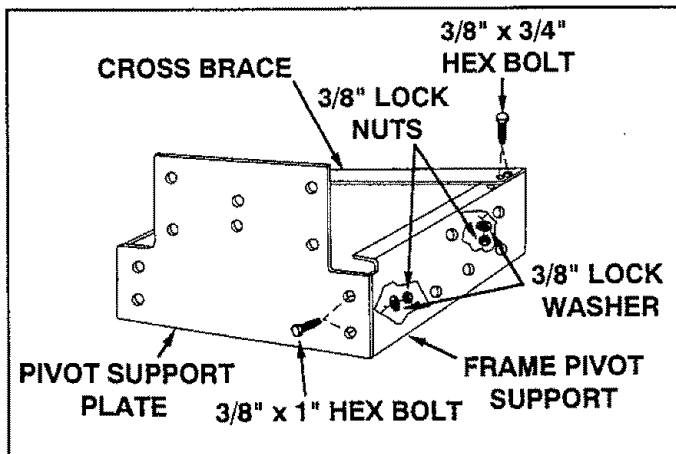

FIGURE 2
- Assemble frame pivot supports (R.H. and L.H.) to pivot support plate using four 3/8" x 1" hex bolts, lock washers and locknuts. See figure 2.
- Using the inside two holes of the frame pivot supports, attach the cross brace using four 3/8" x 3/4" hex bolts, lock washers and lock nuts. See figure 2.